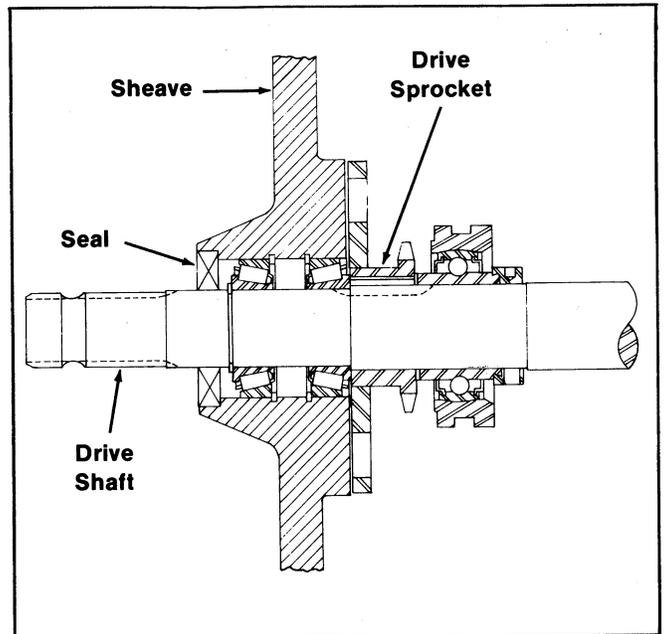

Fig. 9-10: Mill/Blower Drive Cross-sectional View
**MAIN DRIVE SHAFT (Fig. 9-10)**